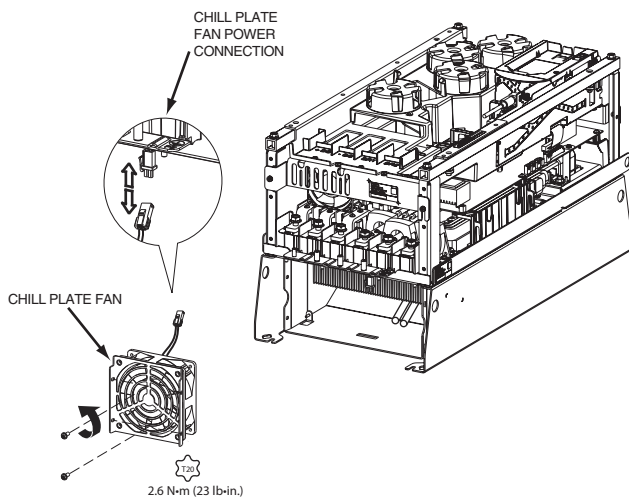

Fig. 28 — Chill Plate Fan, Frame 6
4. Remove and replace the chill plate fan. See Fig. 28.